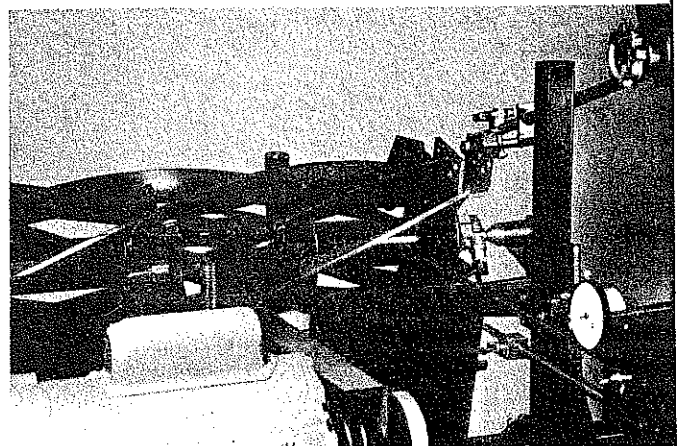

FIG. 72
- A. Place set up gauge on the right hand side of reel approximately 2" from the end and lock into both the front and rear rails of the base. (See FIG. 72)